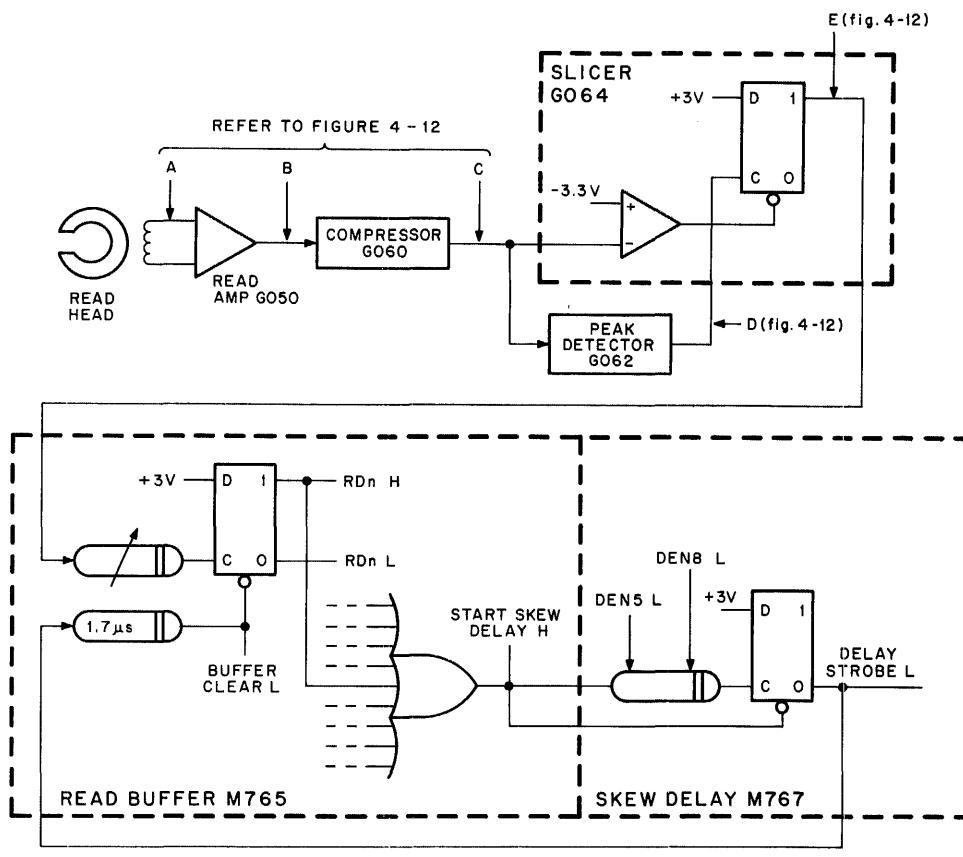
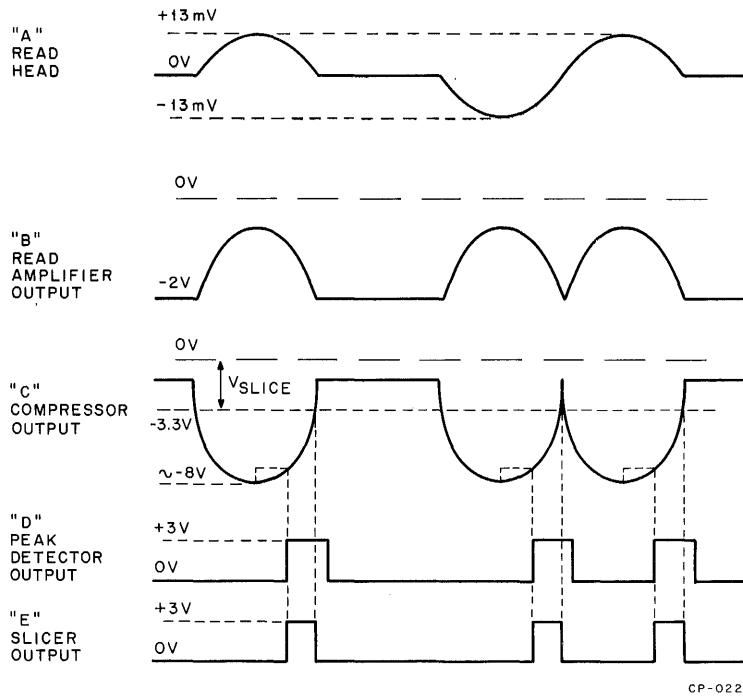

Figure 4-11 Equivalent Circuit of Read Timing and Read Circuity for One Track (Units up to No. 10320)
Figure 4-12 Read Circuit Waveforms (Units up to No. 10320)
4.4.5.1 TU10 DECmagtape Transports up to No. 10320 – An equivalent circuit of one of the 9 (or 7) read channels is shown in Figure 4-11. Figure 4-12 shows possible read signal waveforms at the indicated points. For more complete and accurate representations, see drawings TU10-0-10 and TU10-0-08. Although for simplicity this discussion considers only one read channel, the user should remember that the read electronics includes either 9 or 7 identical, parallel read channels.
The output of the Compressor is routed to two circuits, the Peak Detector (G062) and the Slicer (G064). The Peak Detector is somewhat misnamed in that it does not actually detect the peak of the Compressor output waveform, but rather generates a positive-going logic level transition when the Compressor output swings approximately 1.4V more positive than its negative peak, on the trailing side of the Compressor output pulse (see Figure 4-12). This signal does, however, have a fixed phase relationship to the peak of the Compressor output independent of the magnitude of the Compressor output pulse due to the logarithmic transfer function of the Compressor.